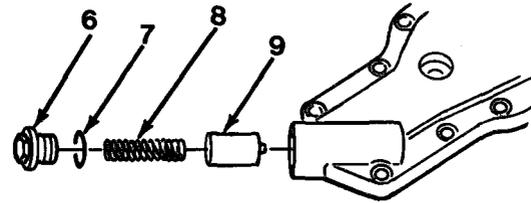

Figure 6-3
1. Remove plug (6), sealing washer (7), spring (8) and pressure regulator plunger (9, Figure 6-3).